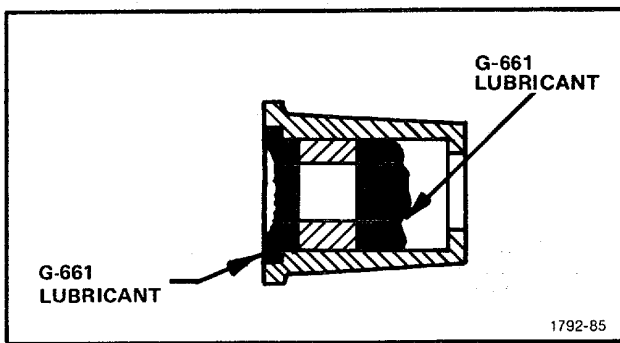

Figure 5-32. Lubrication of ZERO REFERENCE knob.
28. Installation of the ZERO REFERENCE knob and the zero reference CHECK pushbutton (see Figs. 5-32 and 5-33)
- 1. Apply G-661 lubricant to the ZERO REFERENCE knob as shown in Fig. 5-32.